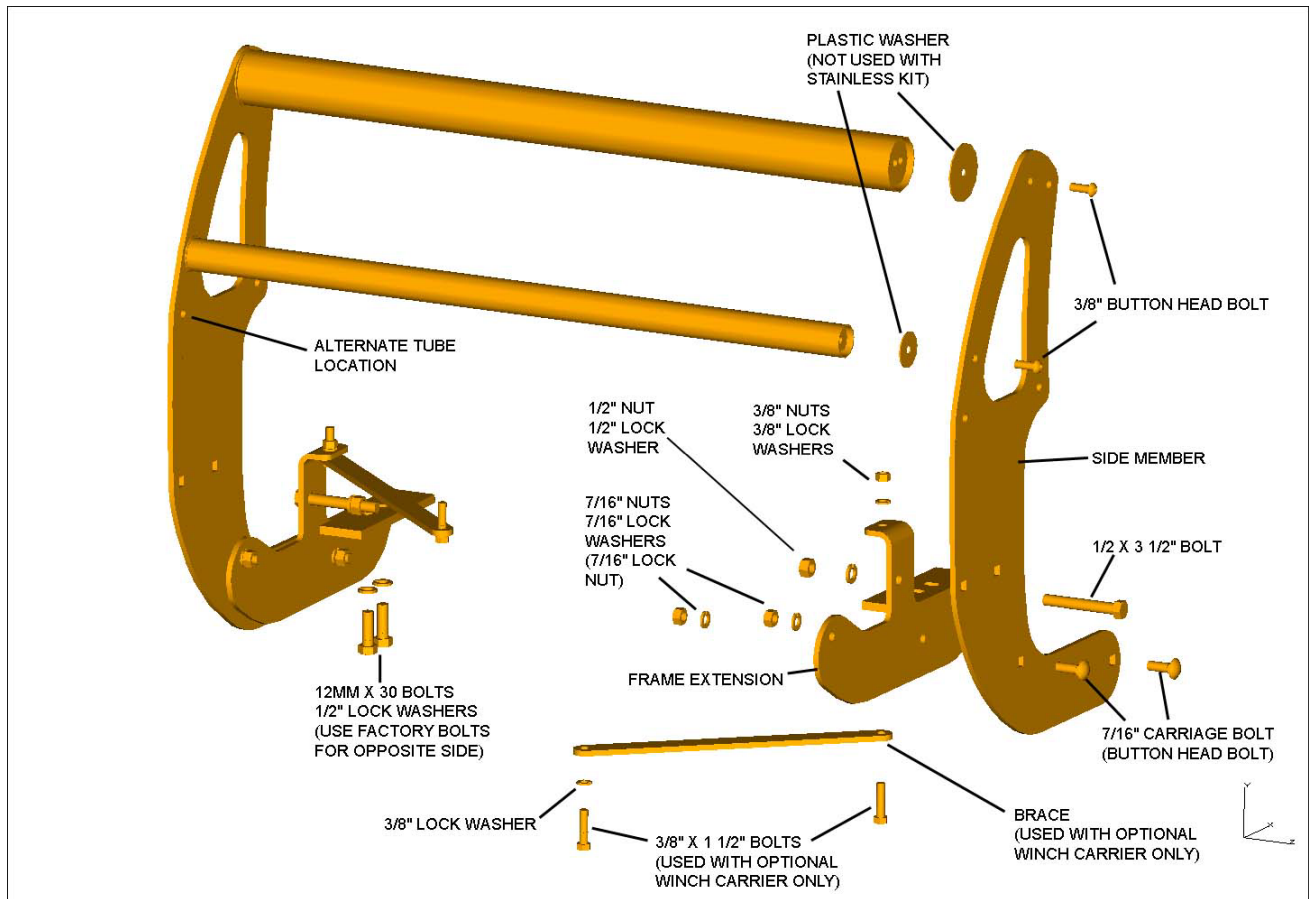

Figure 1. Toyota Tacoma Grille Guard Kit Components
1. Review **Figure 1** to become familiar with the kit components.
9. If the Trans4mer is being installed as a grille guard and a winch is not being mounted at this time, install the tubes in any desired position as shown in **Figure 1**. If the Winch Carrier or Receiver Kit is being added, install a tube only in the top position and then refer to the specific instructions packaged with those items.